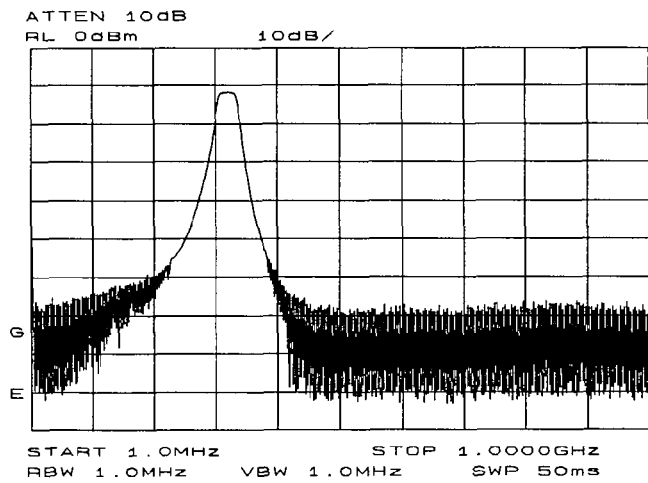

Figure 3-18. Adjust spectrum analyzer settings according to the measurement requirement.
- Since we are only interested in the rejection of the bandpass filter, tune the spectrum analyzer's center frequency so that the rolloff of the filter comprises the majority of the trace on the display (see Figure 3-18).